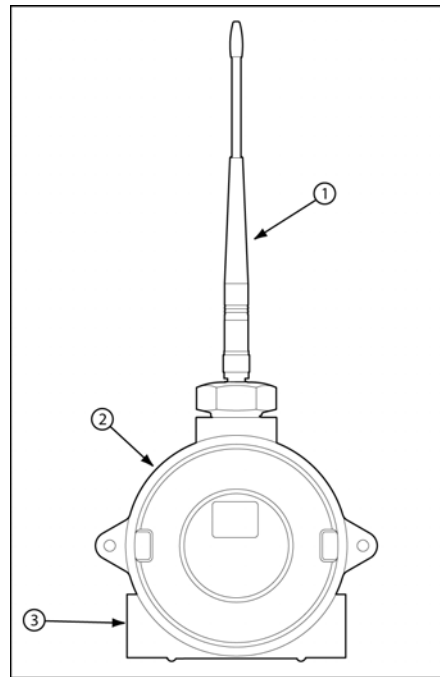

Figure 1. Personnel Alert Base Station
- Figure 1 and Table 2: Personnel Alert Base Station (describes the base station external components).